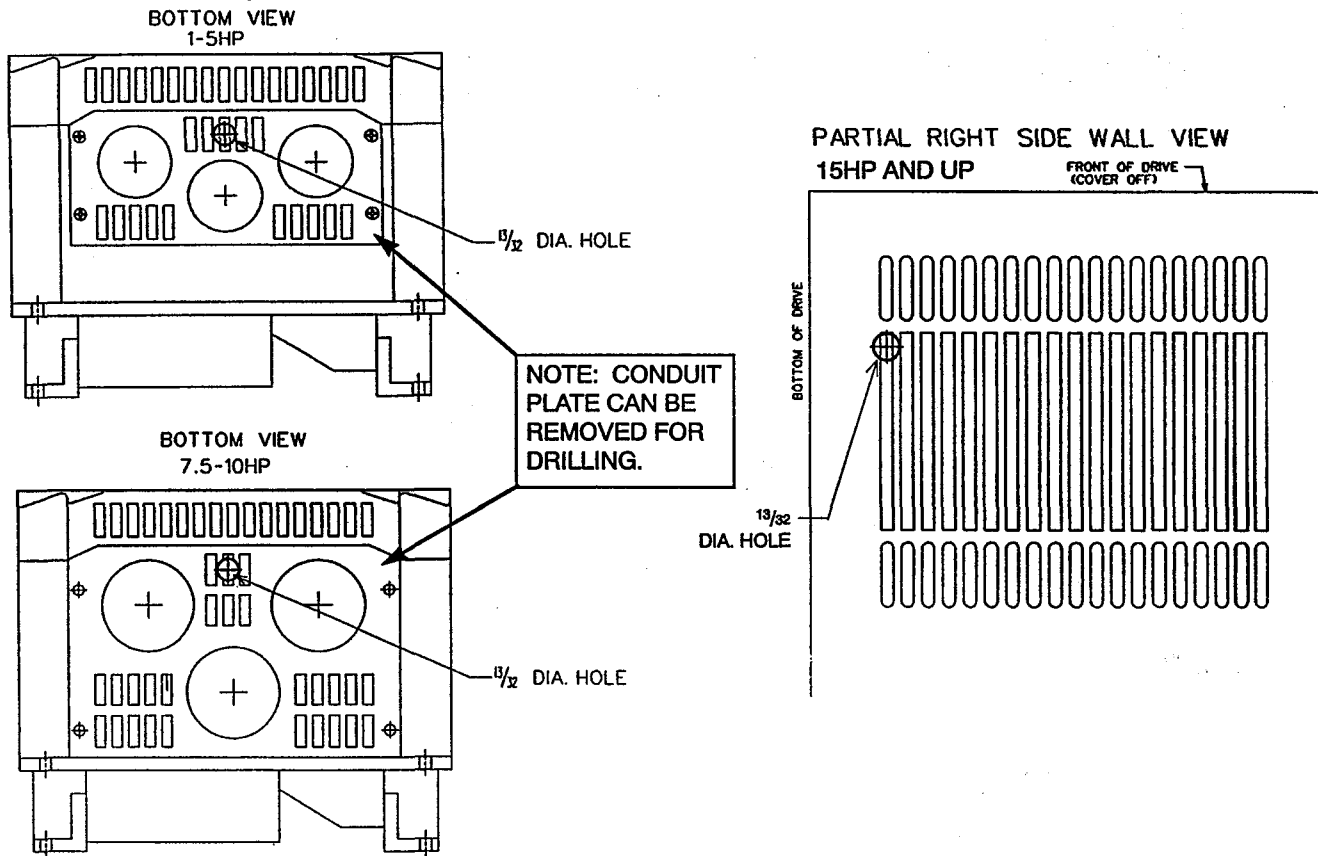

Figure 2. Drilling For Pneumatic Connection
5. See Figure 2. Locate the proper drilling location for your Drive. Being careful not to damage any internal components, drill a 13/32" hole through the Drive enclosure. Remove any burrs from the drilled hole.